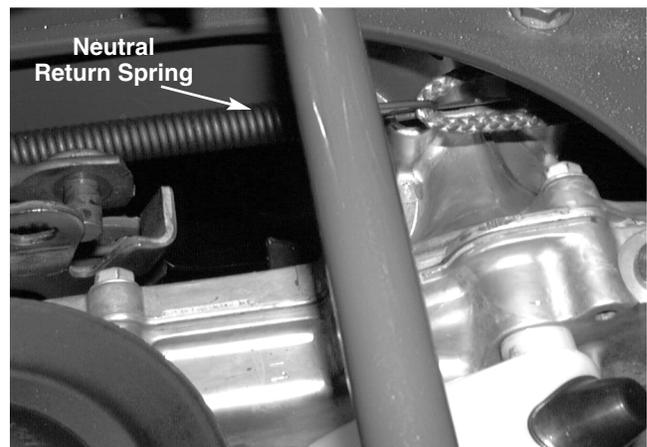

FIGURE 9.
16. Remove the self tapping screw securing the ground wire to the neutral return link. See figure 9.
**NOTE:** An assistant may be necessary during reinstallation to guide the extension spring back onto the frame bolt. See figure 9 and 10.